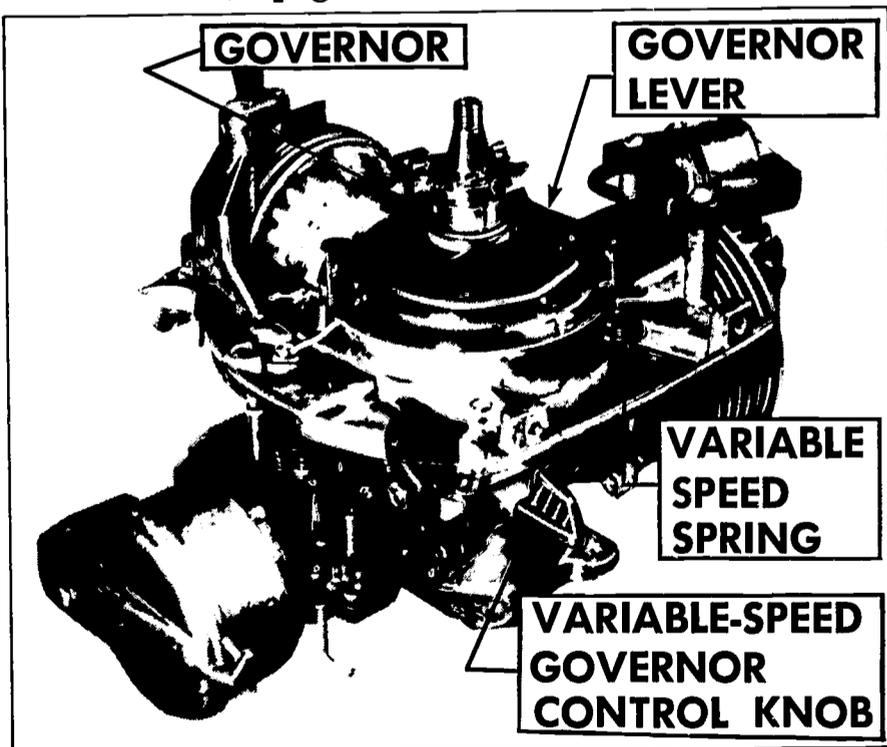

FIGURE 168. One type of centrifugal governor mounted on the flywheel end of the crankshaft outside of the crankcase.
c. If the governor is the centrifugal type mounted outside of the crankcase (Figure 168), use the procedures that follow. There are several variations of this type of governor. If the procedures given here are not sufficient for your engine, consult your service manual.
2. Disconnect the variable-speed spring attached to the governor lever (Figure 168).